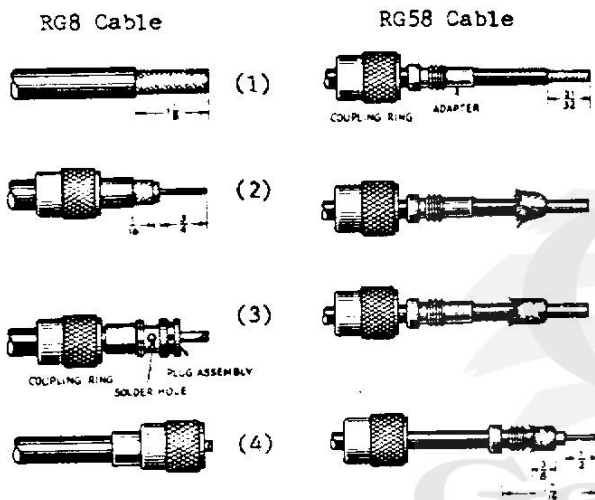

Figure 2-4. Connector Assembly
The procedure for installing a PL-259 (83-1SP) antenna connector is dependent upon type co-axial cable used - the PL-259 is installed directly on 0.405" OD cable such as RG8/A, whereas, the plug requires an adapter when used with the 0.195" OD cable such as RG58/A. The procedures for both cable types are given below, and shown in Figure 2-4.
1. Trim end of cable flush; remove vinyl jacket from 1-1/8" of cable as shown in Figure 2-4 (1). Do NOT nick braid.
1. Trim end of cable flush; remove vinyl jacket from 2 1/32" of cable as shown in Figure 2-4 (1). Do NOT nick braid. Slide coupling ring and adapter on cable.
2. Fan braid slightly and fold back over cable. See Figure 2-4 (2).
3. Compress braid around cable, Figure 2-4 (3), and position adapter to dimension given in Figure 2-4 (4). Press braid over adapter sleeve and trim to dimension shown.